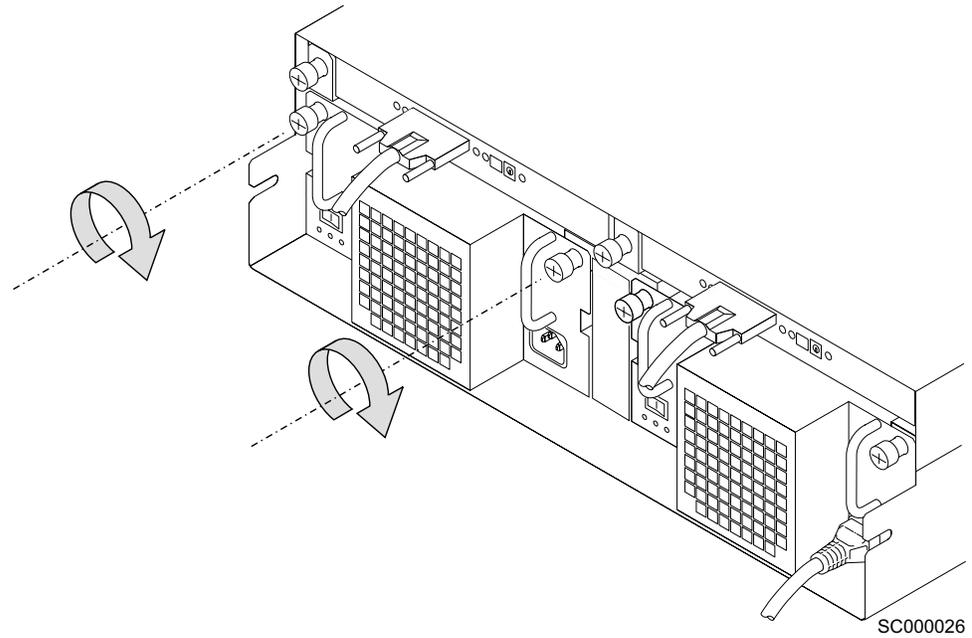

Figure 56. Tightening the screws on a fan-and-power-supply assembly
6. Tighten the two thumbscrews by turning them clockwise. See Figure 56.